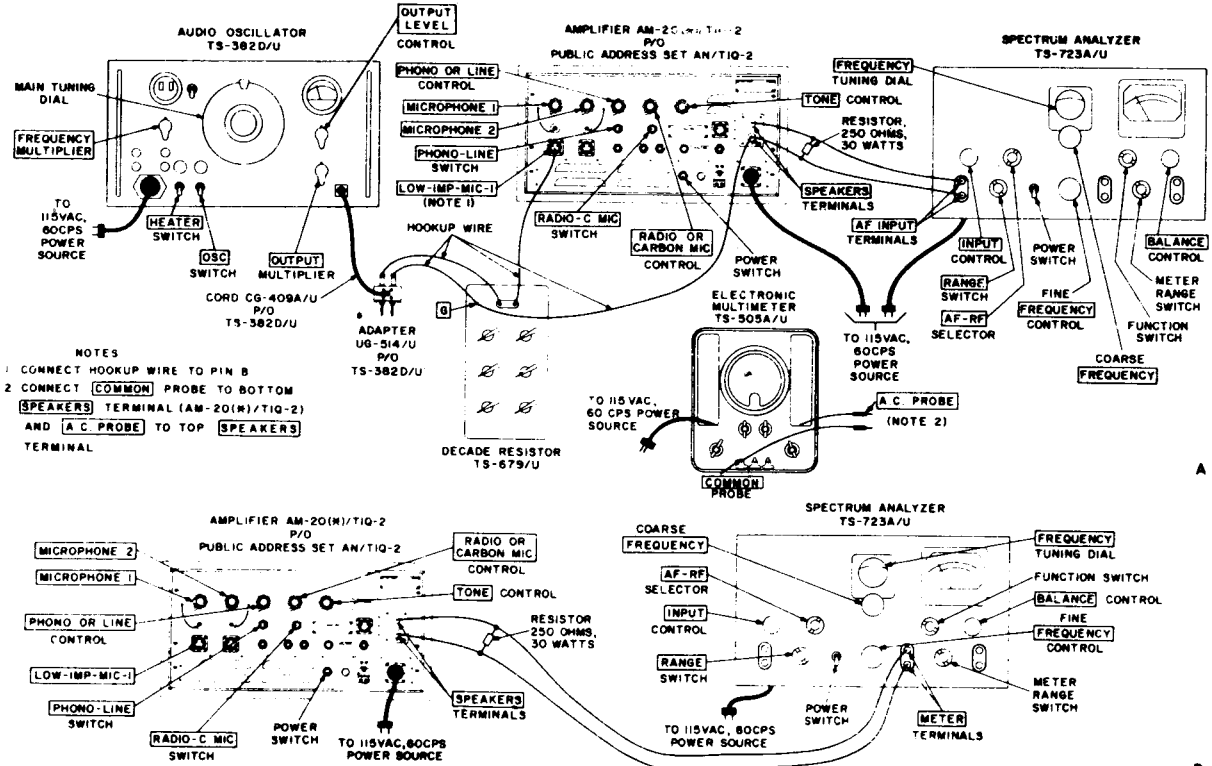

Figure 54.2 Distortion and hum level tests.
(fig. 54.2)
b. Test Connections and Conditions. Connect the equipment as shown in A, figure 54.2.